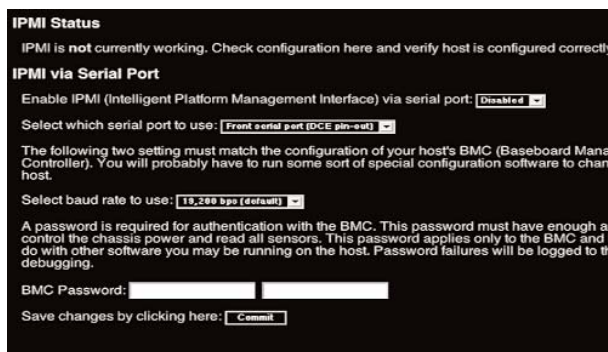

Figure D-1. IPMI Status screen.
The screen shown in Figure D-1 appears.
- Enable IPMI (Intelligent Platform Management Interface) via the serial port: select **Enabled** from the drop-down menu in Figure D-1.
- From the drop-down menu in Figure D-1, select which serial port to use: select **Front serial port (DTE pinout)** since the ServSwitch has DTE serial port only.